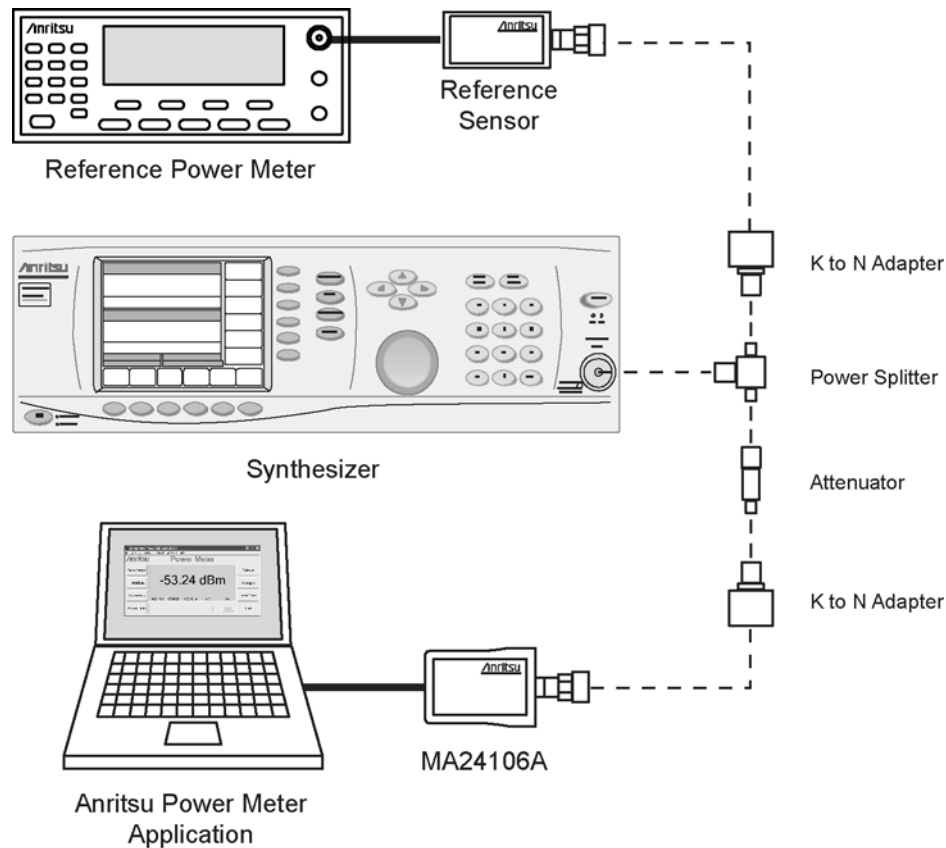

Figure 5-3. Linearity Test Setup
- b. Remove the MA24106A from the splitter and connect the 10 dB attenuator between the splitter and the MA24106A power sensor (see Figure 5-3).